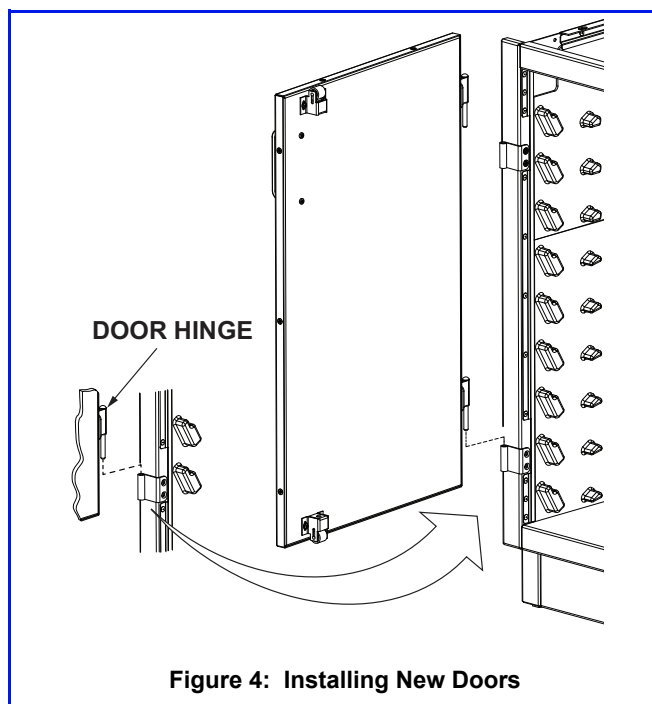

Figure 4: Installing New Doors
1. Place hinge pins of the new doors over the hinge mounts on the Instrument Cabinet and press downward. See Figure 4.